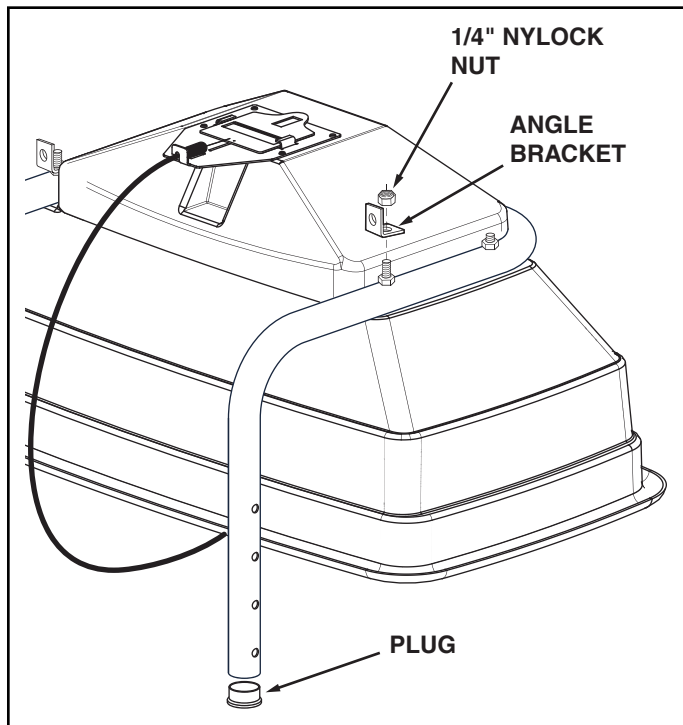

FIGURE 1
1. Turn the spreader upside down as shown in figure 1.
2. Press the two plugs into the ends of the frame tube. See figure 1.
3. Assemble the two angle brackets and two 1/4" nylock nuts onto the ends of the longer bolts that are already assembled to the frame tube. **Do not tighten yet.** See figure 1.